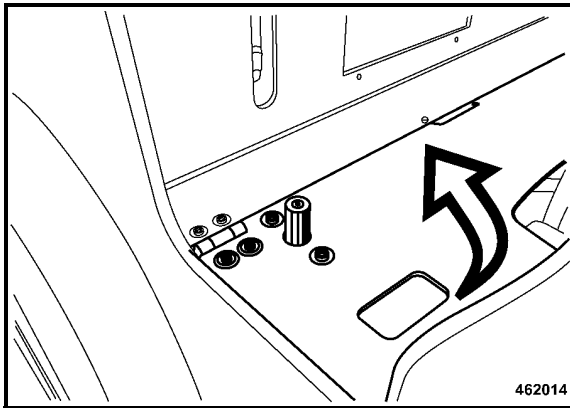

Fig. 89
- Fold up the covering flap in the foot well (Fig. 89).